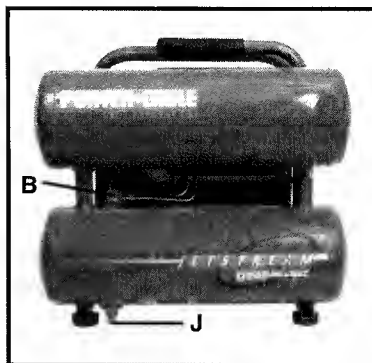

Fig. 2
**Check Valve (B) Fig. 2:** When the air compressor is operating, the check valve is "open", allowing compressed air to enter the air tank. When the air compressor reaches "cut-out" pressure, the check valve "closes", allowing air pressure to remain inside the air tank.
**Drain Valve (J) Fig. 2:** The drain valve is located at the base of the lower air tank and is used to drain condensation at the end of each use.
- c. Turn the drain valve (J) Fig. 2, opening it fully, to prevent air pressure build-up in the tank.